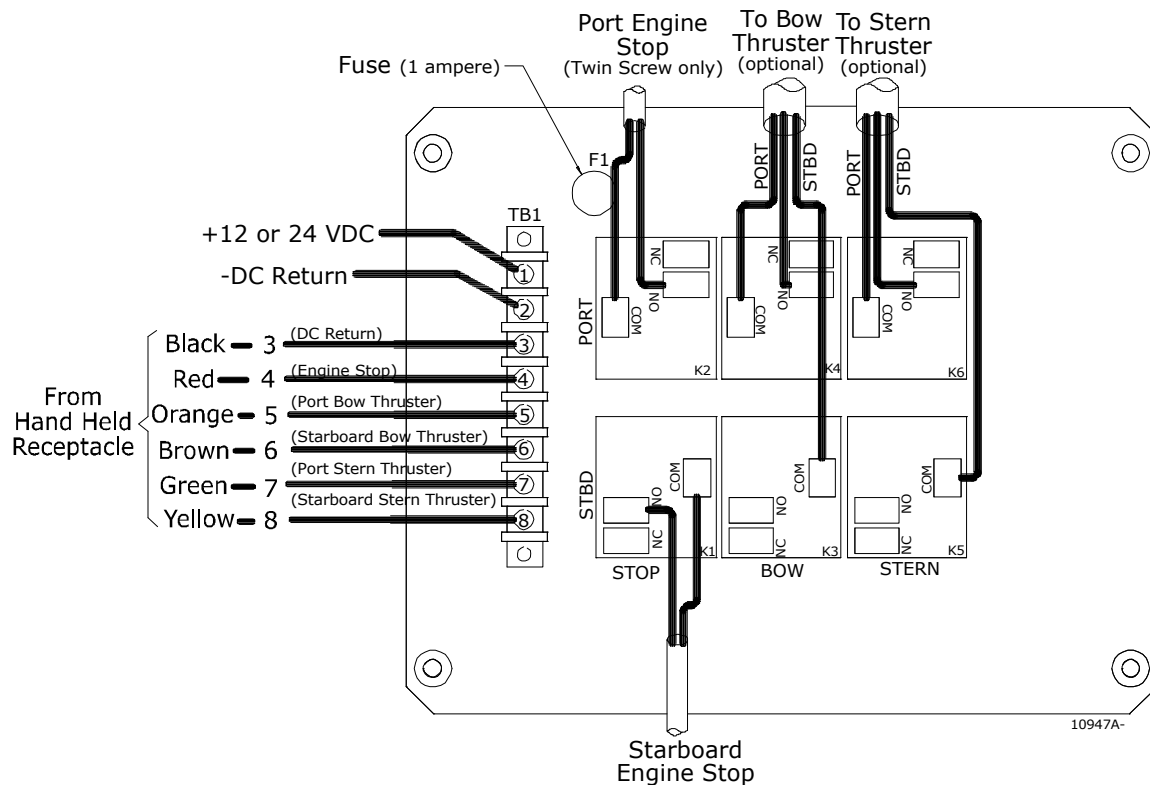

Figure 11 – Wiring Diagram
- Make cable connections as indicated on Figure 11.
- E) Connect two-conductor cable as indicated on Figure 11.
- E) Connect as indicated in Figure 11.
- E) Make cable connections at the Relay Junction Box as indicated in Figure 11.